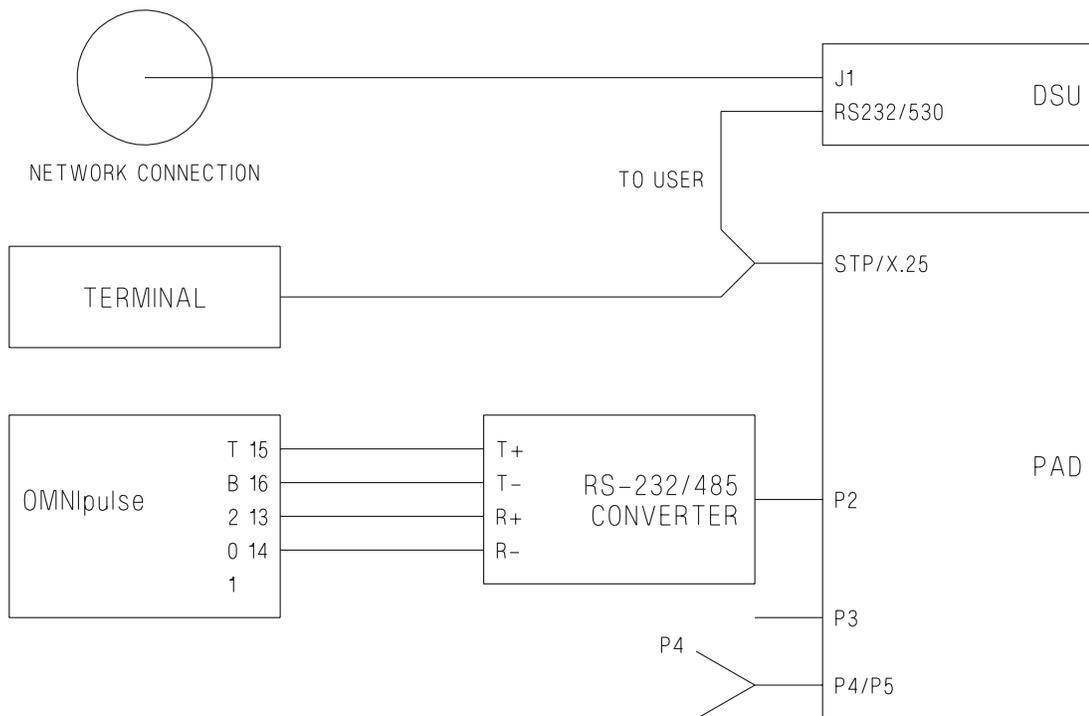

Figure 3-7: OMNIpulse TL1 Block Diagram
Figure 3-7 shows a block diagram of the X.25 connection. The asynchronous connection is accomplished through an RS-485 to RS-232 converter to the OMNIPulse. The synchronous connection to the X.25 network may be user configured as either a permanent virtual circuit (PVC) or as a switched virtual circuit (SVC). Contact your network administrator to determine which type of connection will be provided.
The TL1 port connection should be installed as follows (refer to Figures 3-7, 3-8 and 3-9):
1. Connect the Y-cable labeled To User to the connector labeled STP/X.25 on the back of the PAD unit (see Figure 3-7).